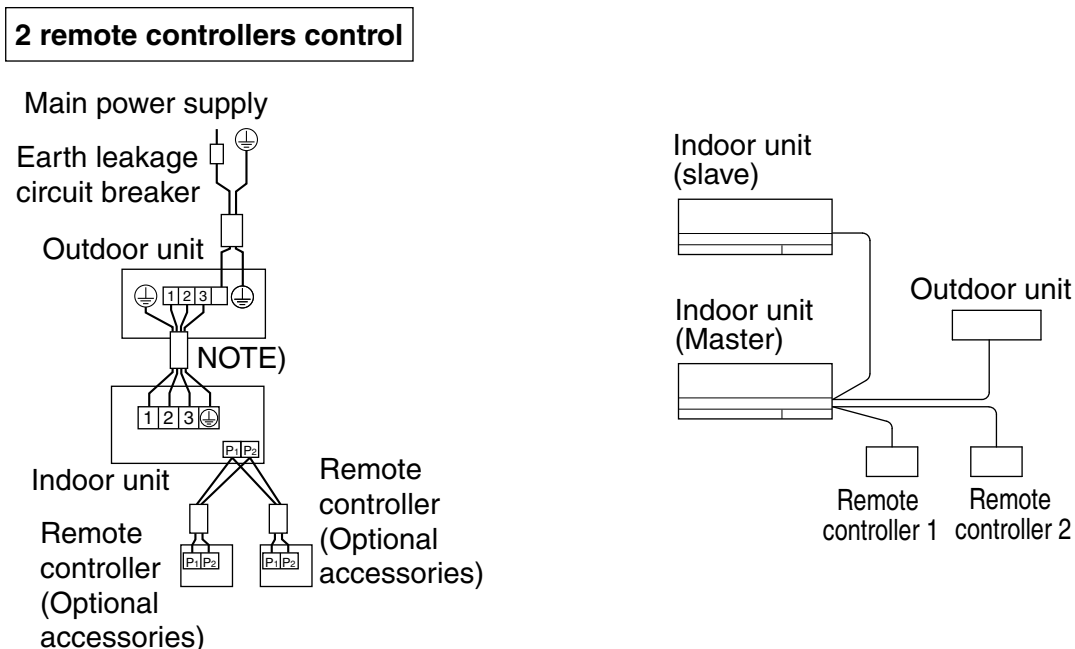

Fig. 28
- **2 remote controllers control:** 2 remote controllers control 1 indoor unit. (Refer to Fig. 28)
(3) Remove the control box lid (Refer to “5. INDOOR UNIT INSTALLATION”.)
(4) **Add wiring between the remote controller 2 (slave) and the terminal (P1, P2) of the terminal block (X1M) for the remote controller in the control box. (There is no polarity.) (Refer to Fig. 28 and Table 4)**